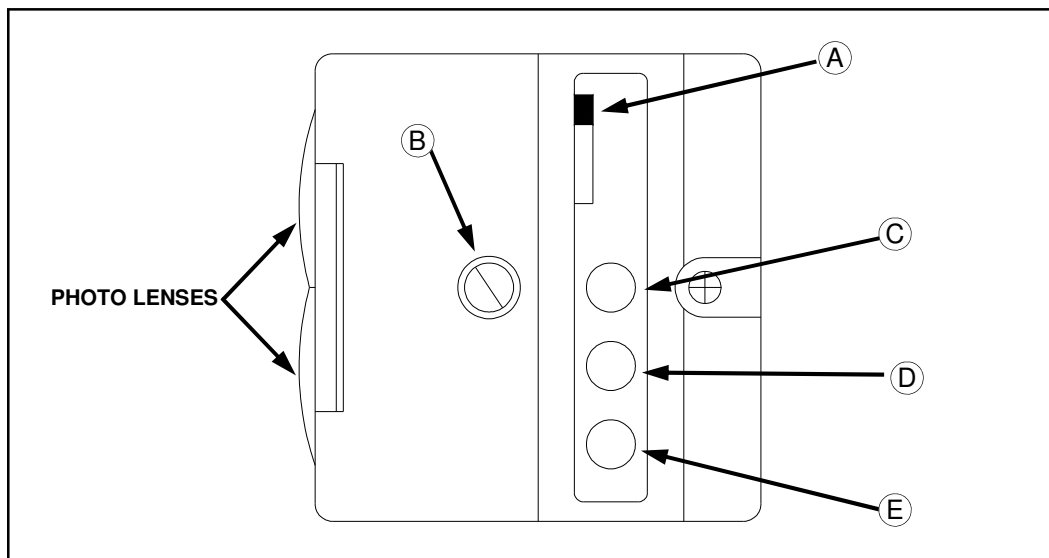

FIG 78-3
The upper and lower LS photo lights (fig. 78-1) have L.E.D. lights (fig. 78-3) that indicate their operational status.
**LT/DK SWITCH** – Light/Dark switch on photo light (fig. 78-3, item A) changes the activated condition of green L.E.D. (see below) from ON (“LT”) to OFF (“DK”). Switch does not affect the functional operation of the light, only how it is displayed. Switch should be set to “LT”.
**SENSITIVITY ADJUSTMENT SCREW** – Sensitivity adjustment screw (fig. 78-3, item B) should always be set to maximum.
**YELLOW L.E.D.** – Yellow L.E.D. (fig. 78-3, item C) indicates power on.
**GREEN L.E.D.** – Green L.E.D. (fig. 78-3, item D) indicates output energized (sending a signal to Tasselrol® box, opening the raise or lower stack valve).
**RED L.E.D.** – Red L.E.D. (fig. 78-3, item E) indicates photo light is receiving reflected signal.